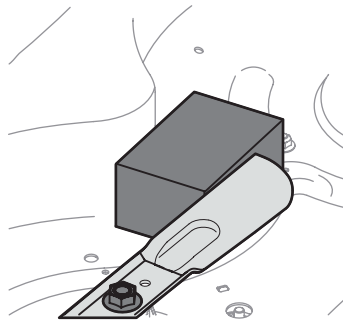

Figure 26
2. Place a block of wood between the deck housing baffle and the cutting blade to act as a stabilizer. See Figure 26.